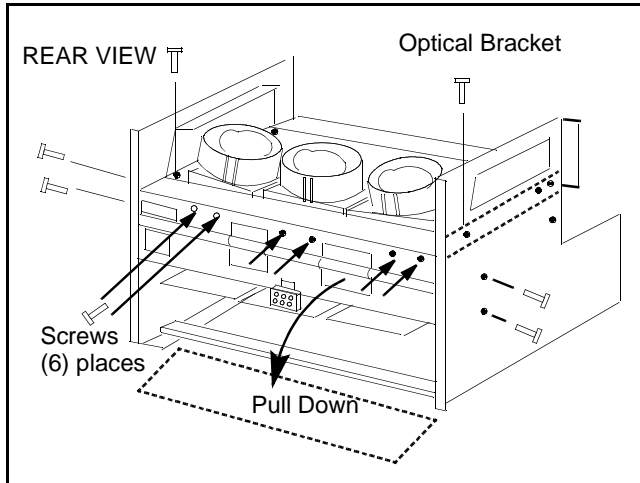
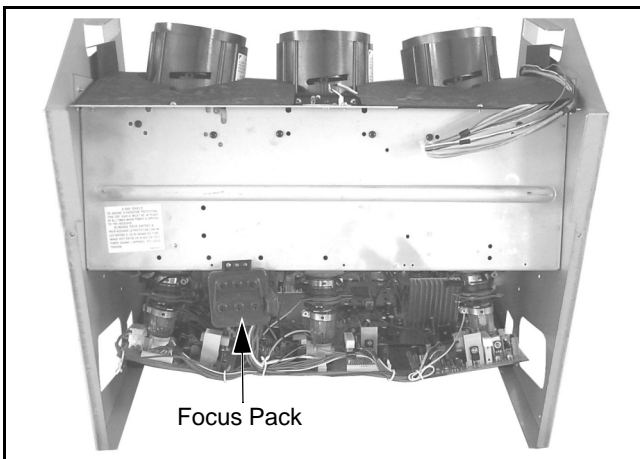

Figure 14. CRT Replacement
Figure 15. Light Box Front View
The Chassis Assembly shown in Fig. 15 includes all the electrical and optical (Light Box) components.
2. Remove the Optical bracket metal cover (rear side) by removing (6) screws from back, (2) screws from top, and (2) screws from each side. See Fig. 14 & Fig. 15.